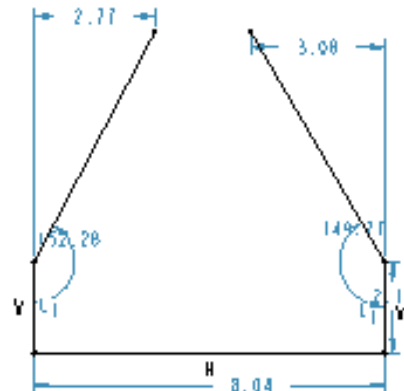
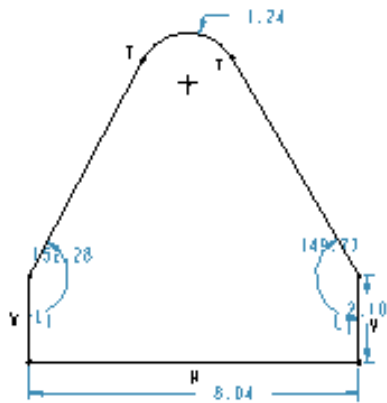

Figure 1-21 Partial sketch with weak dimensions
Figure 1-22 Sketch with arc
- Draw an arc and a circle, refer to Figures 1-22 and 1-23.
Figure 1-21 shows the lines that you have drawn. Now, the arc and circle will be drawn.
4. As the tangent constraint appears, click to end arc creation. You will notice that the tangent constraint with a symbol **T** appears at the endpoints of the arc, as shown in Figure 1-22. Press the middle mouse button to end arc creation.
Note that in Figure 1-21 there are some weak dimensions that are not displayed in Figure 1-22. This is because the weak dimensions are deleted without confirming their deletion. Hence, after drawing the arc some weak dimensions get deleted automatically.